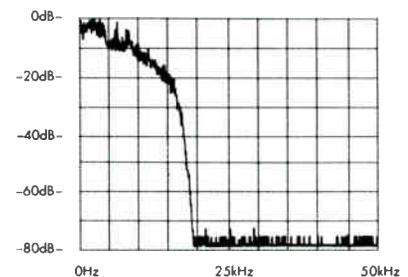

Figure 1: Power spectral density at the 4000A's Output using "maximum peak hold" measurement. (10kHz/div horizontal; 10dB/div vertical)
- The 4000A controls its output spectrum significantly better than a standard OPTIMOD-FM; spectral control has been traded-off against overshoot control, which is slightly poorer than OPTIMOD-FM (by about 1dB). Fig.1 shows the output power spectrum as measured by the stringent "maximum peak hold" technique with an 801-line FFT dynamic signal analyzer (Hewlett-Packard 3562A).
the spectrum falls very rapidly beyond 16kHz (see Fig.1). In FM stereo applications, material above 15kHz will be attenuated by the 15kHz low-pass filter in the FM stereo encoder. In a 32kHz sample-rate transmission link, 17kHz will alias to 15kHz. Thus, only energy beyond 17kHz could cause trouble in an FM stereo system. Because the power spectrum at the 4000A's output is already down at least 40dB at 17kHz, we believe that the system is adequately protected from audible aliasing by the 4000A's filtering alone.